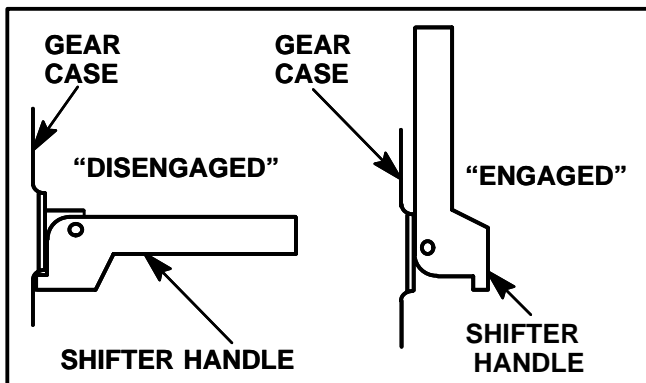

FIGURE 21
- Place blade shifter handle in "disengaged" position (handle will point straight out from unit). Refer to Figure 21.